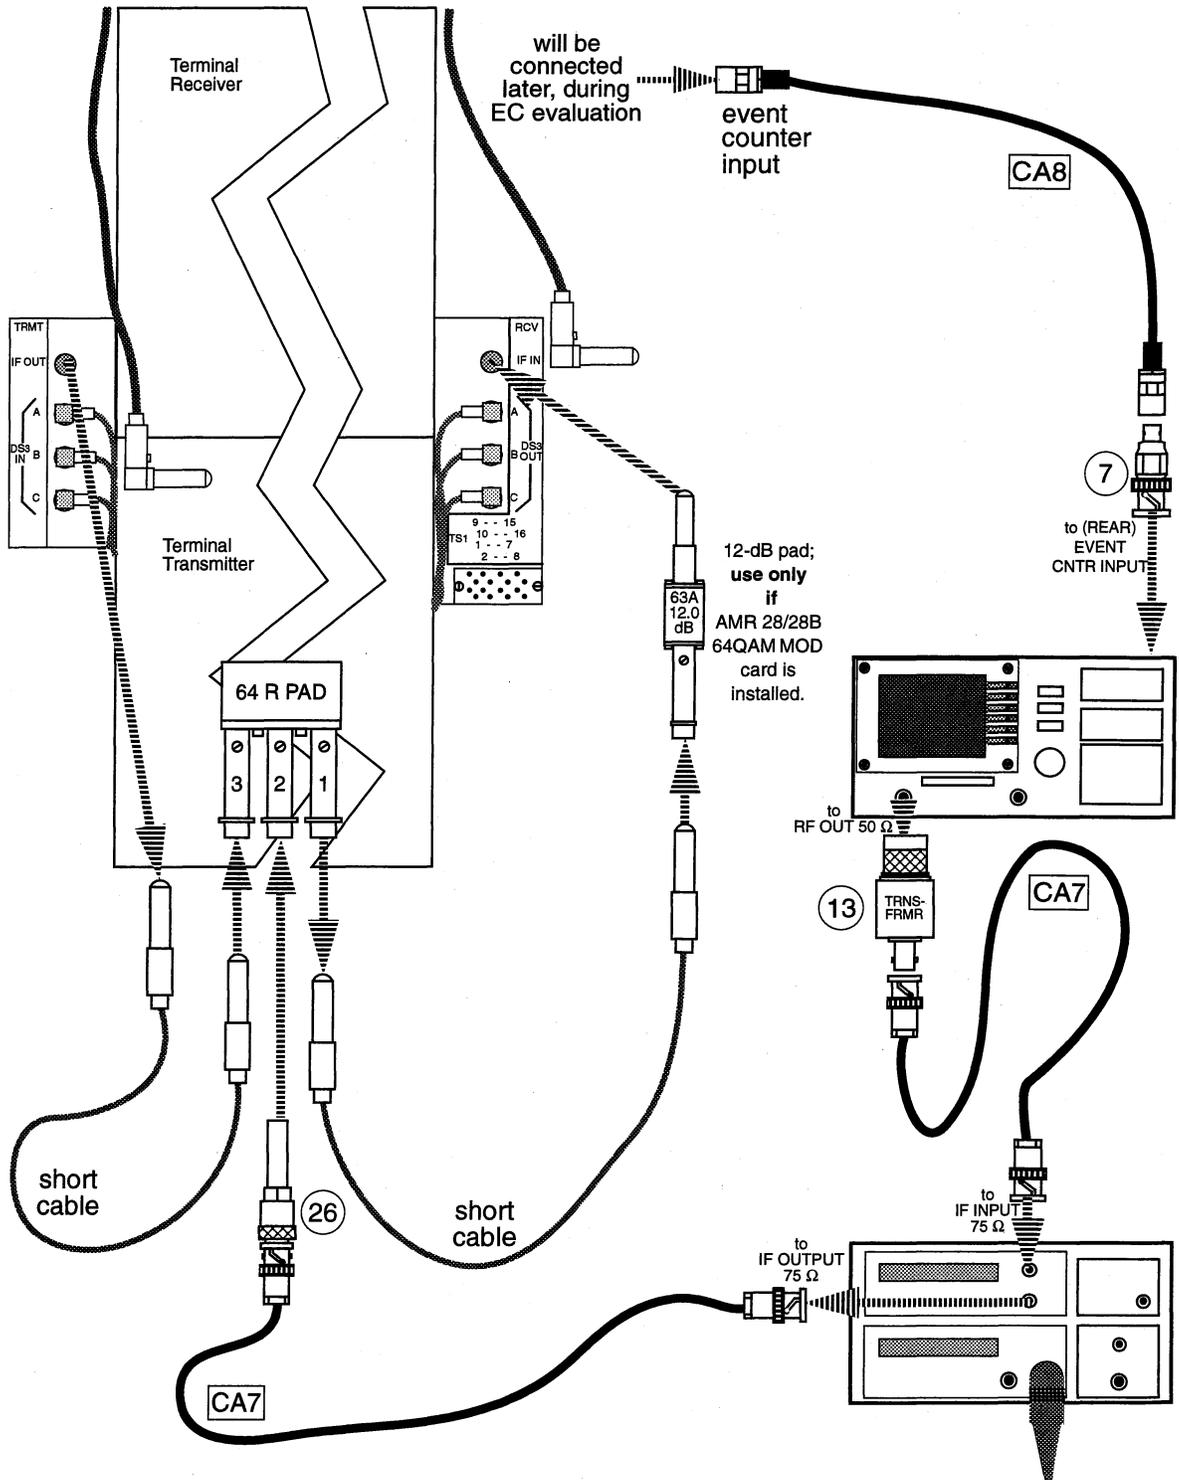

Figure 12. Terminal Loopback "S/I"
- 14 Connect the test equipment as shown in Figure 12 (Terminal) or Figure 13 (Regenerator).
26 Connect the event counter input cable (shaded portion of Figure 12) to the "I" PSEUDO ERRORS jack on the MON card.